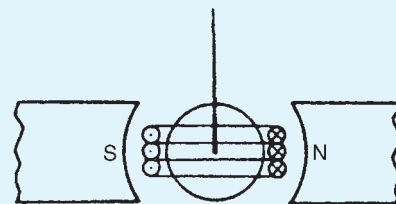

Figure 8.19
- Figure 8.19 shows a simplified diagram of a section through the coil of a moving-coil instrument. For the direction of current flow shown in the coil determine the direction that the pointer will move